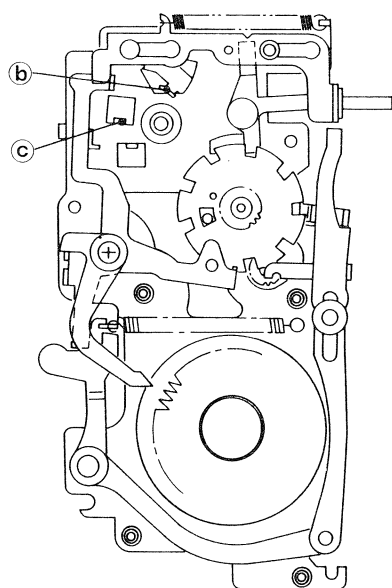
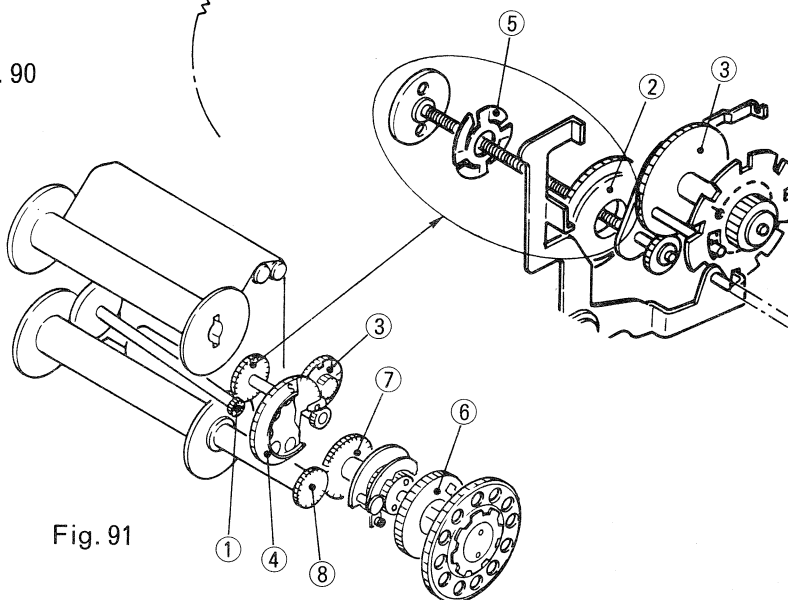

Fig. 90
Fig. 91
- When the 15th exposure is completed, and the 16th frame is advanced, the protrusion of exposure counter disk (a) (Fig. 90) hits against part (b), thus stopping the exposure counter disk rotation, and when the film is further advanced, with (2) and (3) which are engaged with friction gear (1) (Fig. 91), exposure counter disk (4) is stopped, so that friction spring (5) is actuated, and gear (2) rotates, while slipping, then the film leader paper is wound up by (6) (7) (8), but no exposure counter disk advances.
- When 220 film insert is used, lever (b) is disengaged in the arrow direction (Fig. 90) and the protrusion of exposure counter disk is stopped at part (c) (Fig. 92).